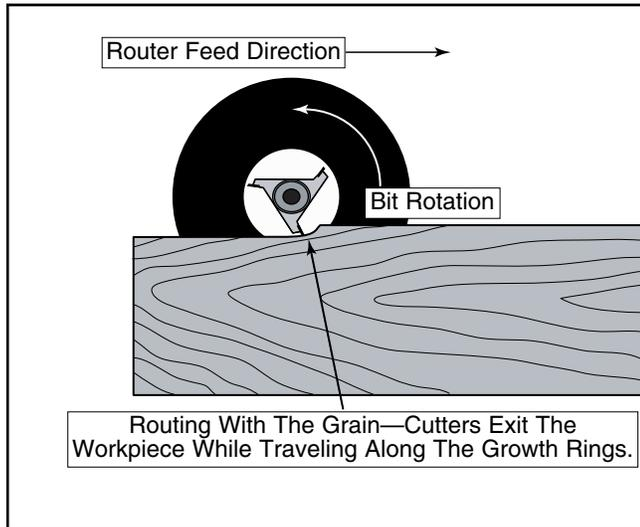

Figure 11. Proper feed direction and grain orientation when viewed from bottom.
1. Examine the top face of workpiece you intend to route and determine the direction of the grain. Always feed the router so the bit is cutting with the grain (cutting along the growth rings as shown in **Figure 11**). Cutting against the grain chips the wood rather than cutting it, and makes for a rougher surface with more “chip out”.
- It is very important to pass the router across the workpiece so the bit is rotating opposite the feed direction as shown in **Figure 11**. If the cutters are moving in the same direction you are feeding the router, you are performing a “climb cut.” This is a very dangerous operation because the router could lunge forward out of your hands, causing serious personal injury.